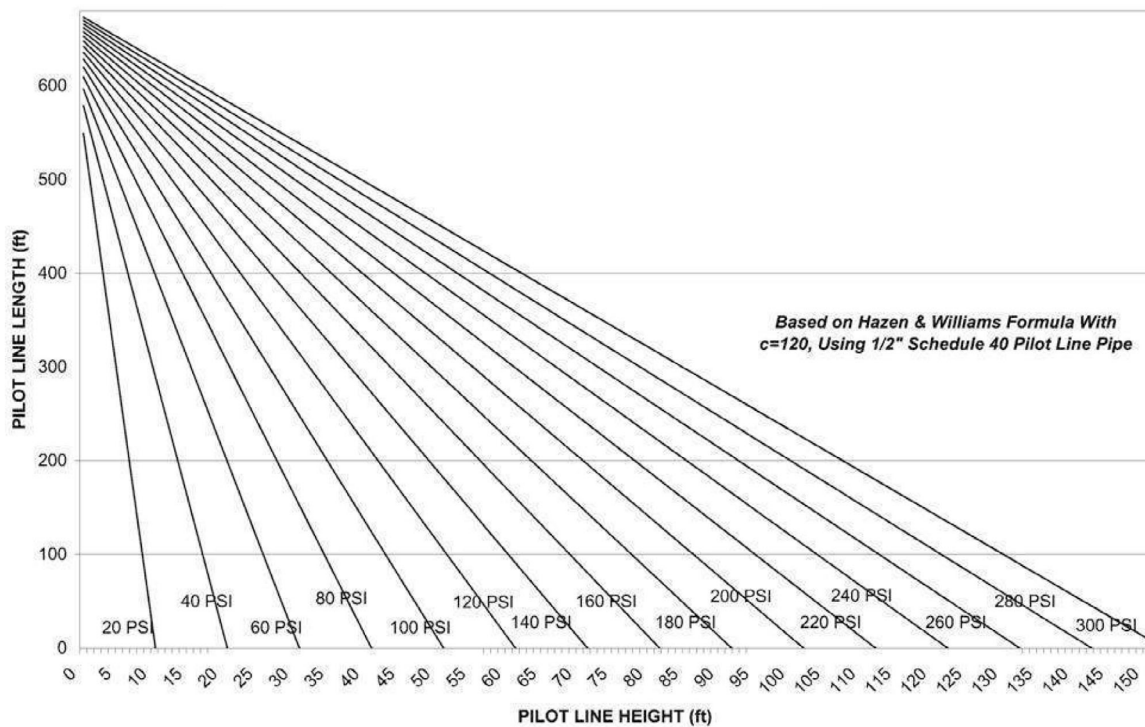

Fig.3
- Maximum wet pilot line length and height must comply with data provided in Fig. 3.